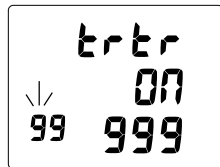

Fig. 37B - SET LINK CODE
- > If ON is selected, the First Digit (left) of the Code will flash (Fig. 37B).